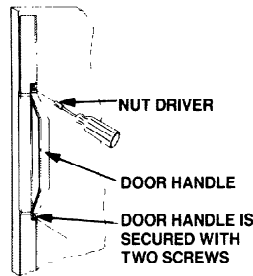

FIGURE 5
2. Remove the upper and lower door handle screws. See Figure 5.